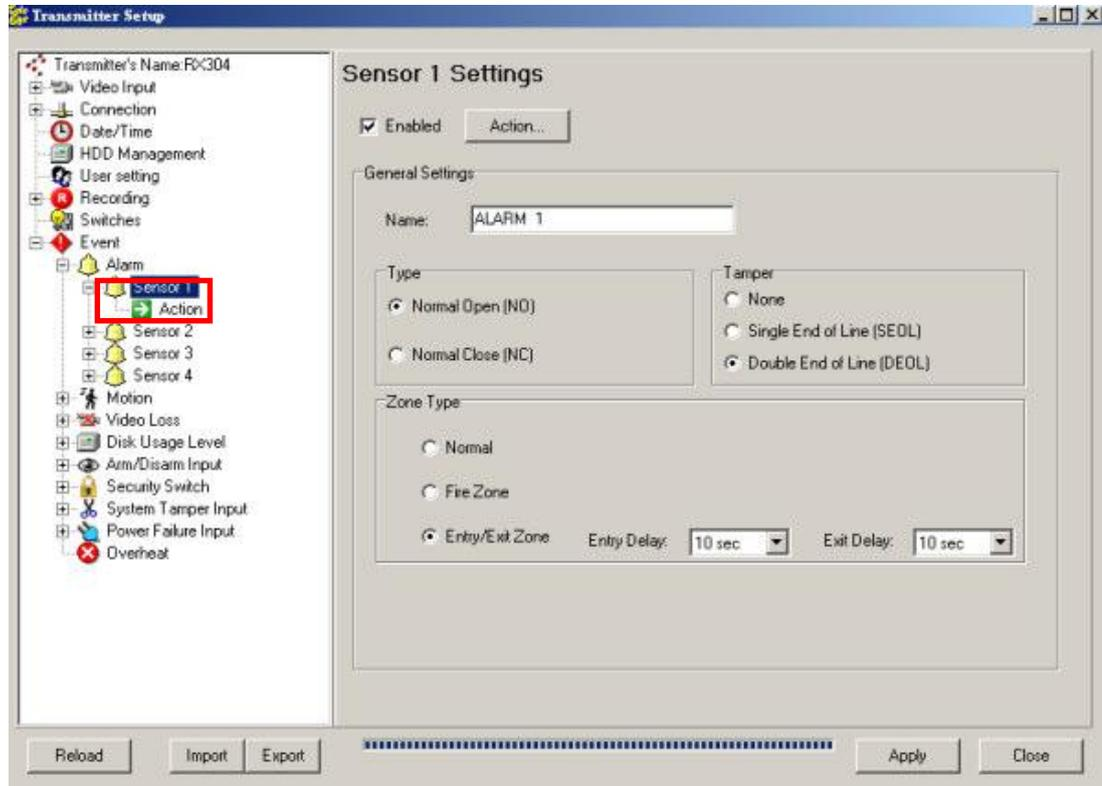

Fig 8.1.3e
Step 1 : In {Transmitter Setup} panel, click [Event] → [Alarm] → [Sensor (No.)] option to pop up {Sensor (No.) Setting} panel as Fig 8.1.3e.